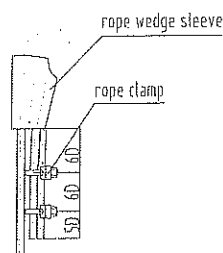

Figure7-5
(3) When starting a new winding layer, don't leave a big gap between the steel rope and the edge of the drum.
(4) While winding the steel rope, pull it with force, tightening it and winding it.
(5) Never wind the steel rope disorderly, which is one of the reasons for early break of the steel rope.
(6) After a new steel rope is used for some time, wind it again, otherwise it may mess up.
(7) When inserting steel rope into the rope cover, do as indicated in figure 7-5, and fix the steel rope with rope clamp.